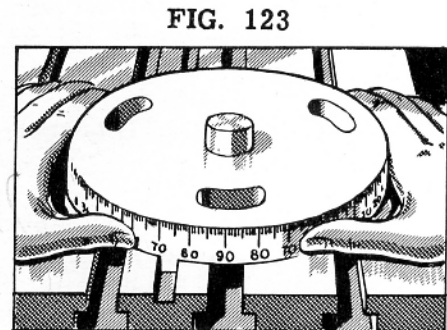

FIG. 123
7. Clean thoroughly the base of the vise. Be sure that all chips are removed from the slots to prevent them from getting between the underside of the base and the table top (Fig. 123).
8. Place the base on the table with the graduations toward the front (Fig. 123).